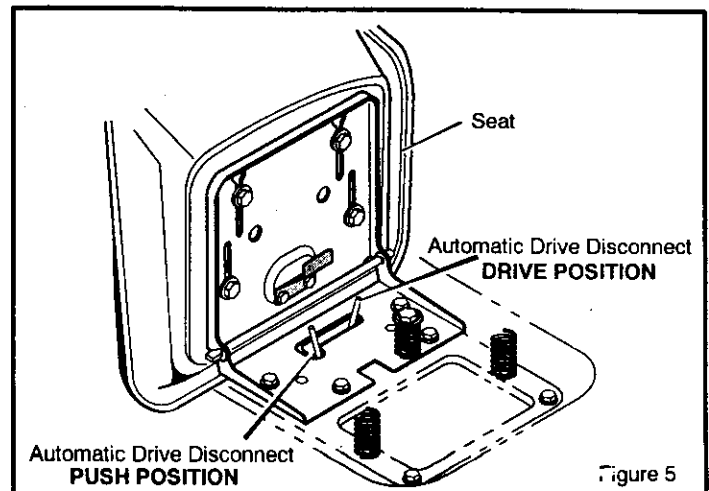

Figure 5
1. The **automatic drive disconnect** must be in the DRIVE position (Figure 5).
3. Move and latch the **automatic drive disconnect** in the PUSH position (Figure 5). The transmission is now *released* and the unit can be pushed.